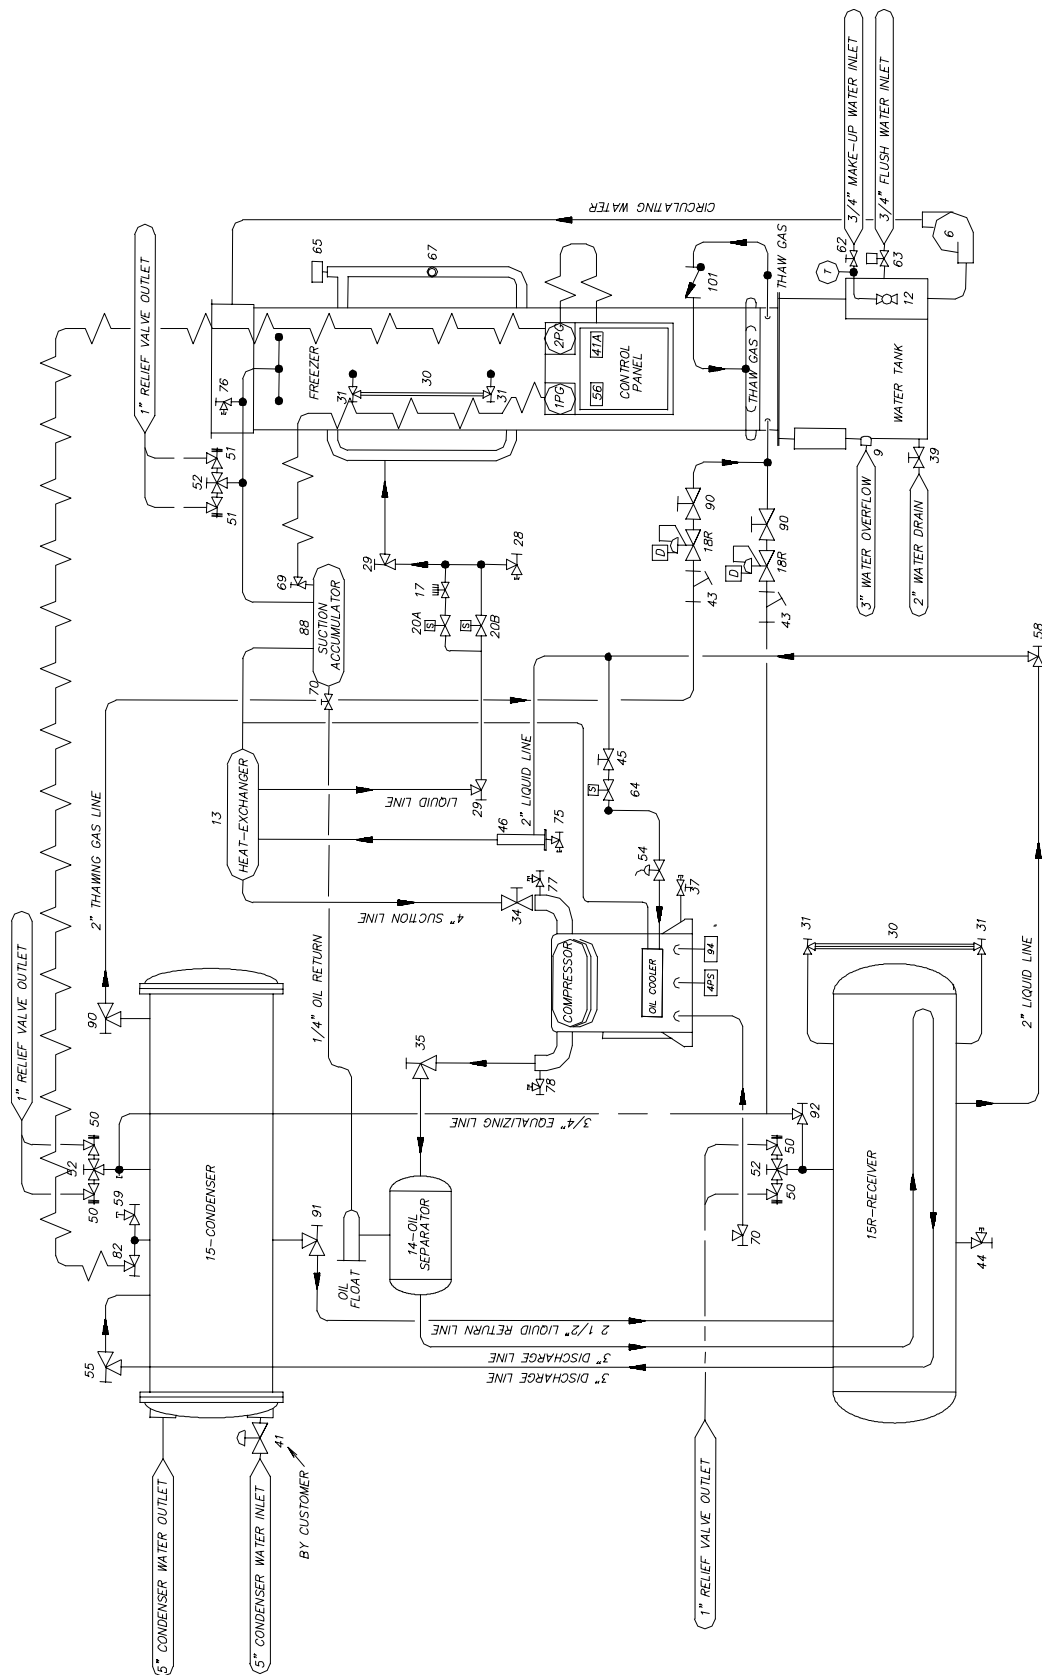

FIGURE 4-1
Operating Features. Your package Tube-Ice[®] machine is an efficient ice producing plant. If installed and maintained properly, it will give many years of operation with a minimum amount of repairs. Refer to piping schematic, FIGURE 4-1 to identify component parts while following the information and instructions in this manual.
Refrigeration System Review. The refrigeration system uses R-22 or R-404a refrigerant. Following the piping schematic (Figure 4-1), you will see that during the machine's freeze cycle, the compressor discharge gas goes through the oil separator (14) to remove any oil present in the discharge gas and return the oil to the suction accumulator (88). From the oil separator, the discharge gas continues through a heat coil in the lower part of the condenser/receiver (15). It is then discharged into the condenser and condensed into a liquid by the removal of heat by water passing through the condenser tubes. A reservoir of liquid refrigerant is accumulated in the receiver and is required for thawing purposes. Liquid from the receiver flows through the filter/drier (46), and the heat exchanger (13), to the liquid feed solenoid valve (20A), which opens and closes by action of the capacitive level probe (65). The liquid is then expanded through the hand expansion valve (17) and into the evaporator (2) (freezer). The liquid is also fed through a bypass line and the constant feed solenoid valve (20B), which is open throughout the freeze cycle. The cold wet refrigerant that is fed through these valves floods the evaporator and is in contact with the outside of the ice making tubes which water is being circulated through. The heat contained in the water passes through the wall of the tubes, lowering the temperature of the water and causing it to freeze and form a long tube of ice that adheres to the inside of the freezer tubes. Since the purest water freezes first, the circulating water continues to wash the dissolved solids down into the sump area of the water tank (7). The flushing valve (63) helps to rid the water tank of increased dissolved solids by flushing them out the overflow during the harvest (thawing) period.